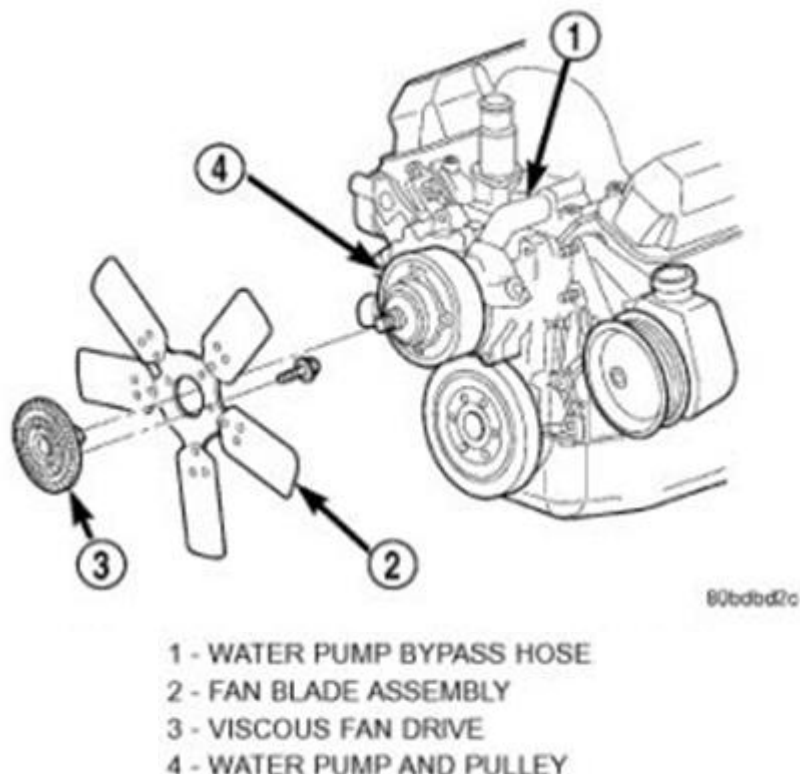

Fig. 14
- Remove the fan by unscrewing the four bolts, which secure it to the water pump (Fig. 14).